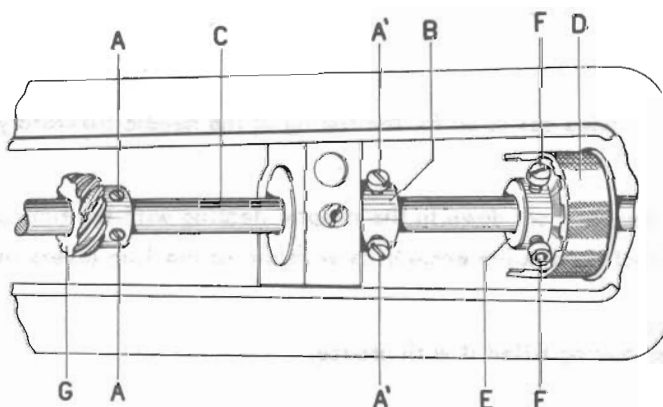

Fig. 25
- loosen (Fig.25) the set-screws **A-A** fastening the zig-zag controlling gear **G** and the screws **A'-A'** of the supporting ring **B** on the upper shaft,
- remove the belt **D** (Fig.25) connecting the lower and upper shafts, and loosen the two fastening screws **F** of the upper pulley **E**,